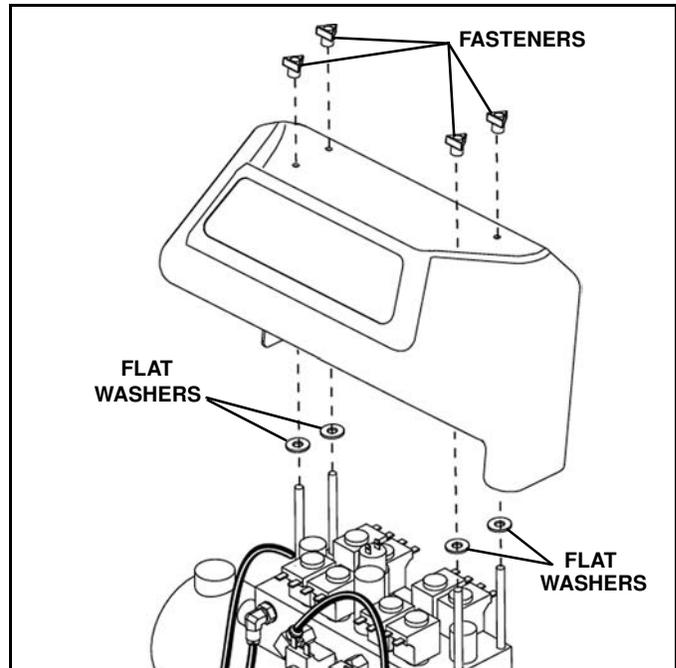

Figure 1-19
17. Ensure that a flat washer is on top of each of the four power unit cover studs and install the cover. Secure with four plastic fasteners. (See Figure 1-19).